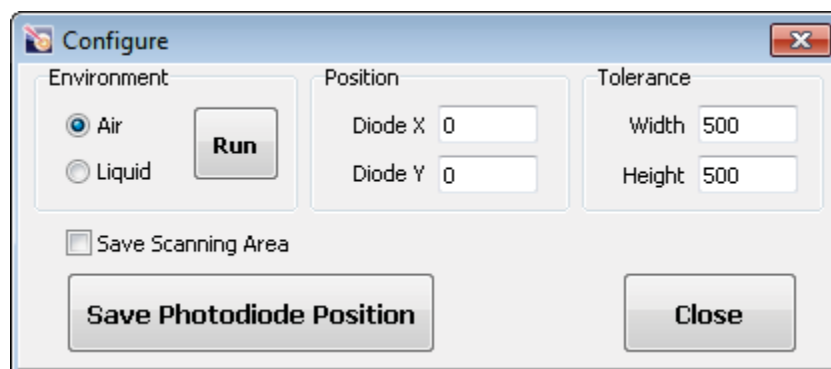

Fig. 7-5. Configure
- a) Open the **Configure** window (Fig. 7-5) by clicking the  button.